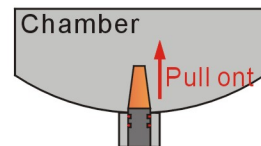

Fig.5.5-0
- (5) Vacuum pump stops. “Time display window” is showing flash “do” after finished. The door can be opened now.
- (6) After the water filter of inside chamber be pulled out, go into to ultrasonic cleaning. Put on the alcohol lamp burning and use 3-way syringe puff it. (Fig.5.5-0)